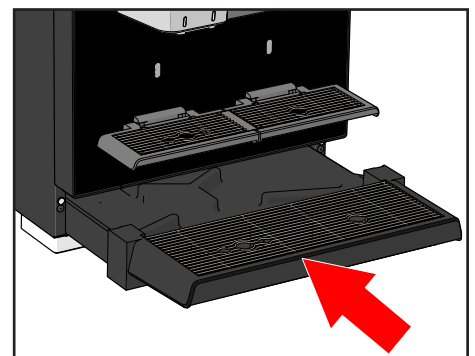
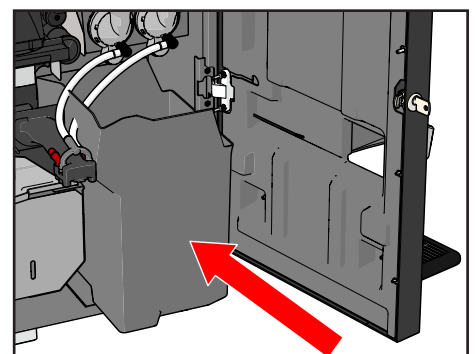

Figure 31.
Figure 37.
4. Replace the grille on the drip tray, and replace the drip tray into the machine (see Figure 31)
18. Replace the waste bucket (see Figure 37) and the drip tray with grille (see Figure 31).